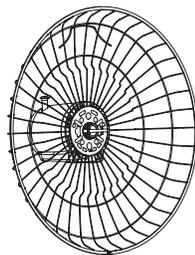
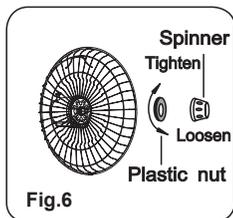

Fig. 5
Fig.6
1. Unscrew and remove the spinner clockwise (or remove from parts bag) and the plastic nut counterclockwise. Fig. 6. Mount the rear guard against the motor face so that the pin at the motor face bottom fits through the tear drop hole in the rear guard mounting ring. When correctly mounted the set of two tabs on each side of the motor face will also fit through their designated holes in the mounting ring, and the rear guard will rest flat and evenly on the motor face. Screw the plastic nut back onto the motor face to secure the rear guard in place. Fig. 5.